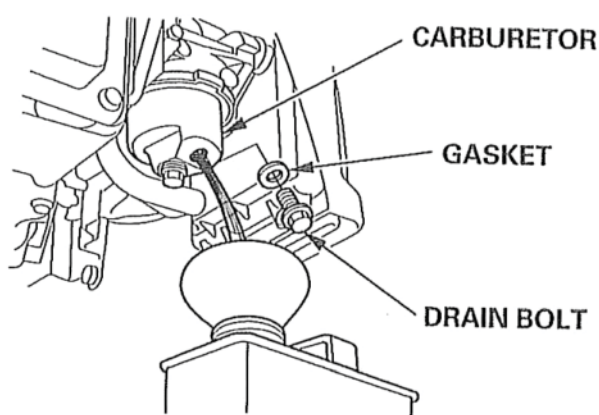

Figure 20
4. Remove the carburetor bowl drain bolt and gasket, then drain the fuel into an approved gasoline container (Fig 20).